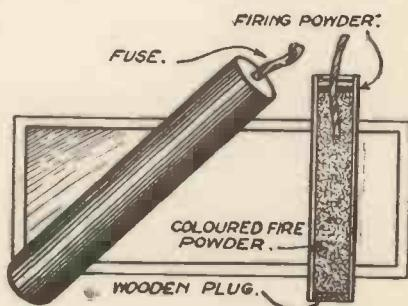

Fig. 3.—Details of the Container for holding the Coloured Fire.
**The Containers for the Coloured Charges.**—Cut a sheet of brown paper 3 in. by 12 in., and having well anointed it with a starch paste, form it into a cylinder by rolling it round a 1 in. broomstick. When the paste has set, remove the paper tube, and block one end with a tight-fitting wooden plug, as shown in Fig. 3. The powder, moistened with methylated spirit, is rammed into the paper cylinder until it lies within half an inch of the open end, and into this mass of powder is forced a length of touch paper. A layer of firing powder one-eighth of an inch deep is poured over the coloured fire powder. The touch-paper fuse is thus surrounded by firing powder. Finish off the cartridge by closing it with a disc of cardboard punched with a hole for the fuse. When the fuse is ignited it smoulders down to the layer of firing powder ; this takes fire immediately, and gives off sufficient heat to fire the colour powder ; make the fuses from touch paper as already described. The firing powder is an approximate gunpowder composed of a rough mixture of powdered charcoal, powdered saltpetre, and flowers of sulphur.